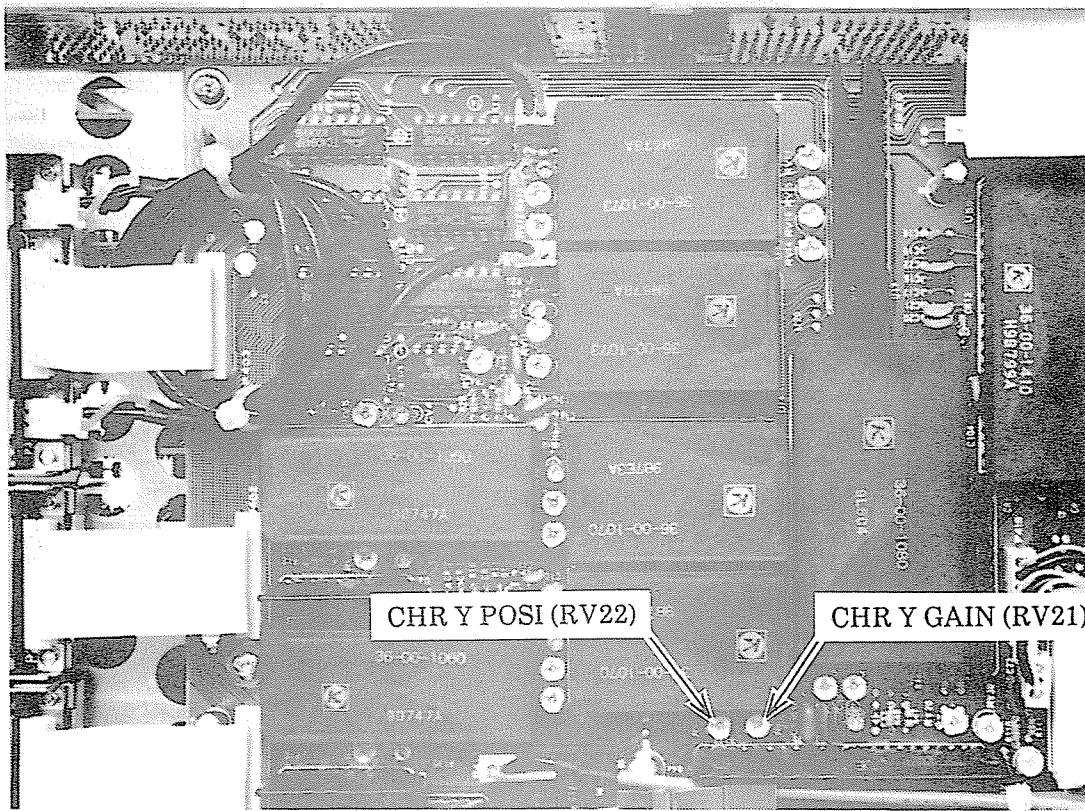

Fig. 4-17 Adjustment positions of CHR Y GAIN (RV21) and CHR Y POSI (RV22)
- (4) Confirm that the distance between the two cursors is  $8 \text{ DIV} \pm 0.1 \text{ DIV}$ . If it is not, adjust CHR Y GAIN (RV21) on board A4 shown in Fig. 4-17.
- (5) Confirm that the positions of the two cursors are within  $\pm 0.1 \text{ DIV}$  of the 8 DIV point on the vertical axis of the CRT screen. If they are not, adjust CHR Y POSI (RV22) on board A4 shown in Fig. 4-17.